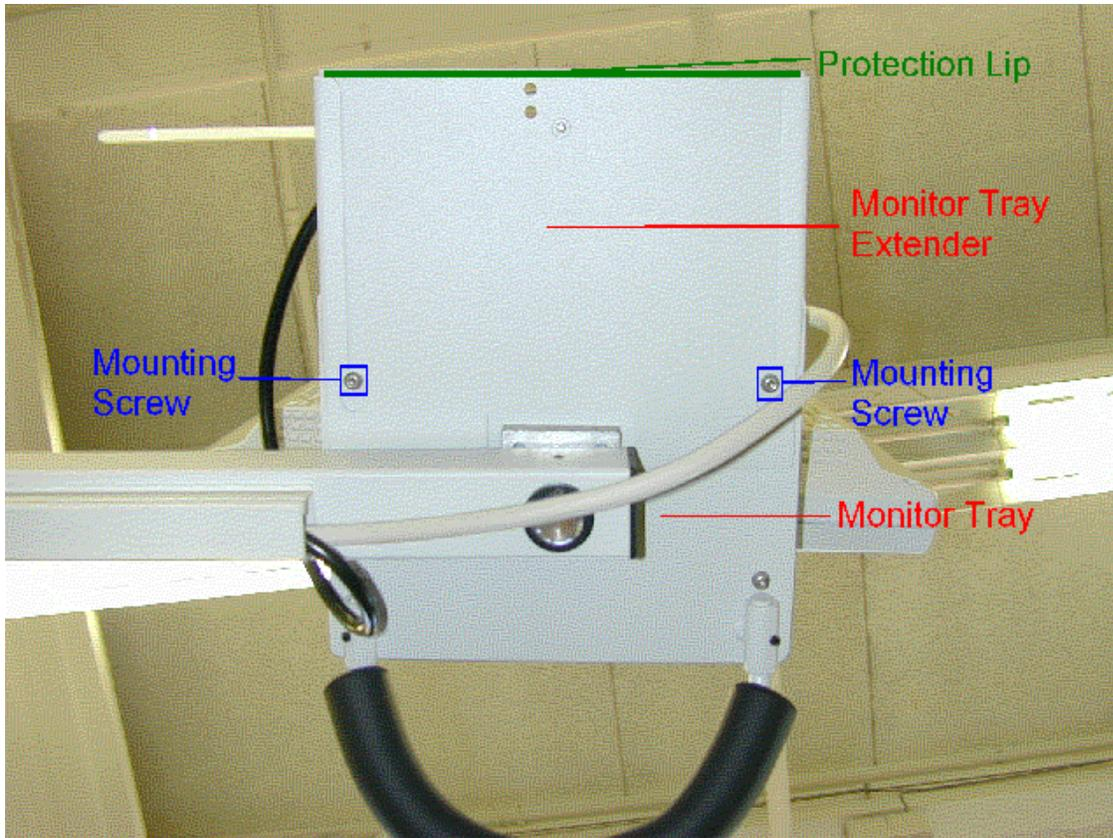

Figure 5.
4. Once mounted, tighten the monitor mounting screws highlighted with blue squares on figure 5 below.